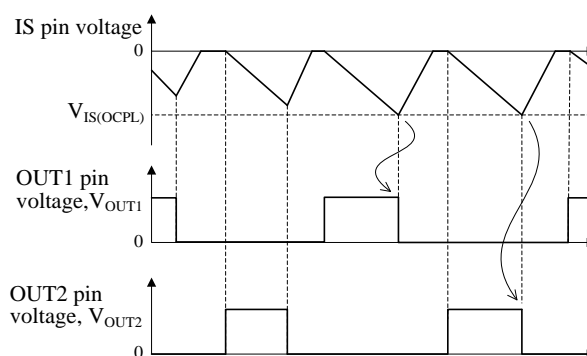

Figure 8-14 OCP operation by  $V_{IS(OCPL)}$  (either  $V_{OUT1}$  or  $V_{OUT2}$  is high)
1) When either  $V_{OUT1}$  or  $V_{OUT2}$  is High, the output, which is set High, is set to Low as shown in Figure 8-14.